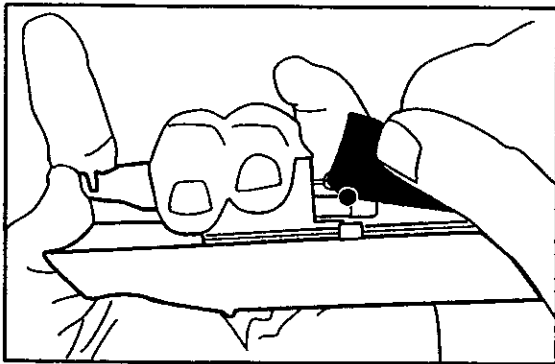

Fig. 14
2. Depress the nozzle /valve assembly and unlatch the trigger. The nozzle/valve assembly is spring loaded. ( Fig. 14)